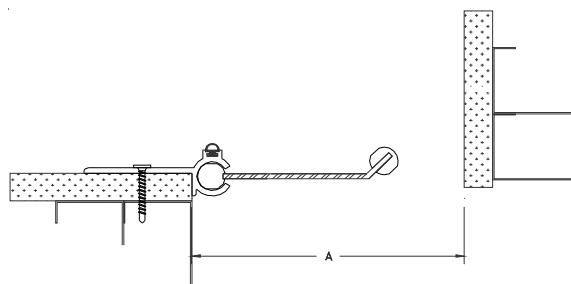

Figure 8
STEP 11. Using the notch provided in the center of each section of the installed base member, insert the centering bar's sphere into the base member's track (see Figure 8).